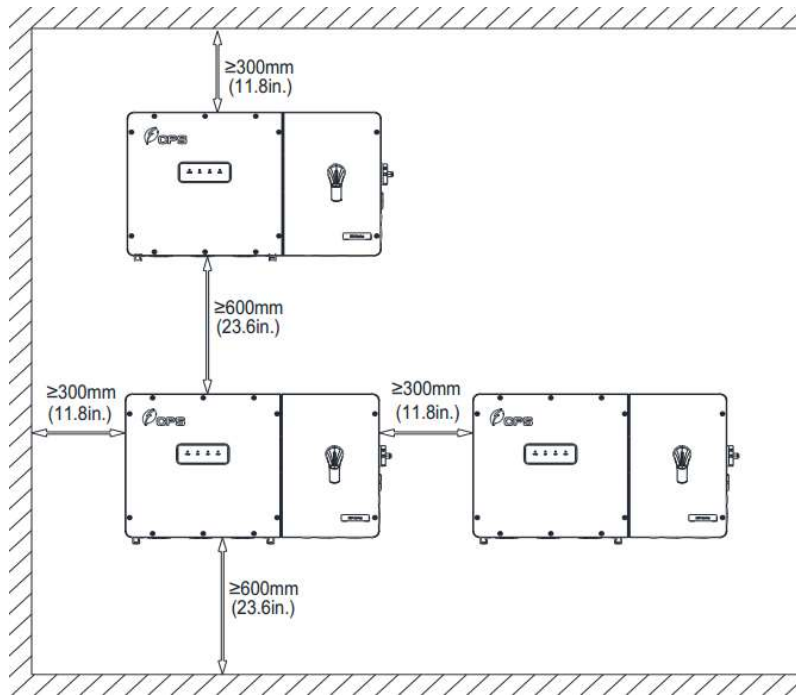

Figure 3-4 Inverter Wall Mounting Dimensions
- ✓ Sufficient space according to **Figure 3-4** and **3-5** must be provided to allow the inverter cooling system to operate normally.
(3) **Installation Space Requirement (see Figure 3-4):**